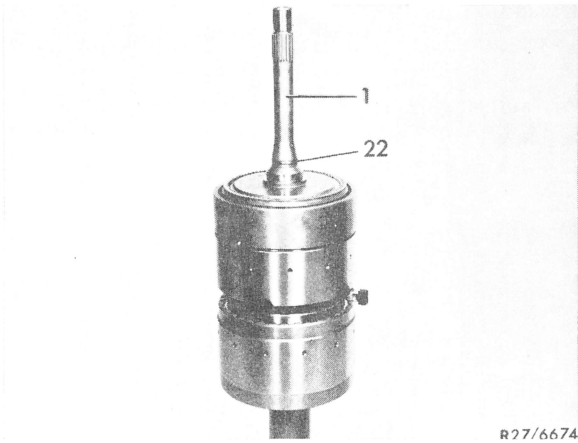

Fig. 30
45 Mount input shaft (1) (Fig. 30).
46 Insert new lube pressure ring (22) on input shaft (1) into groove and engage (Fig. 30).